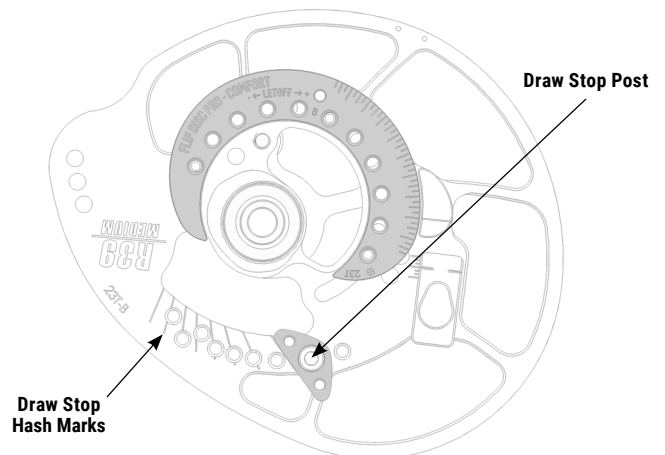

Figure 2: Draw Stop Post Settings
10. Note that the Reckoning Gen2 Series bows come equipped with a 2-sided draw stop. Once the draw stop is set to the correct position corresponding to your desired draw length setting, note that there are hash marks on the module side of the cam. For a "softer wall" feel, rotate the draw stop such that the round side of the draw stop is tangent to the corresponding hashmark and the flat side of the draw stop is approximately parallel to the hashmark as shown in Figure 2. For a "harder wall" feel, rotate the draw stop such that the flat side of the draw stop is aligned with the hashmark.